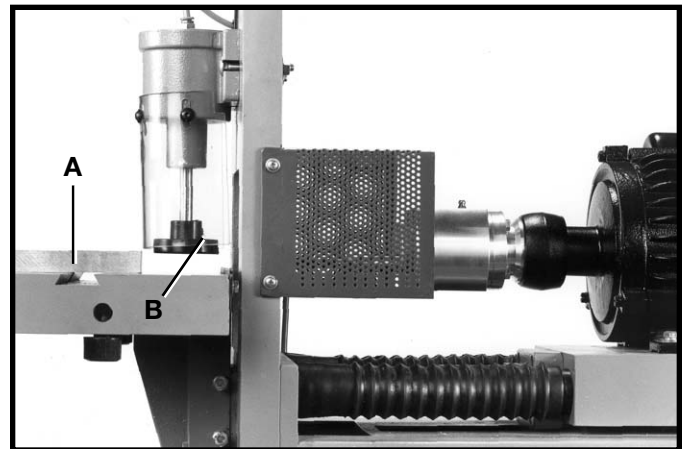

Fig. 27
2. Place workpiece (A) Fig. 27, on the table close to, but not under, the work holddown (B).
3. Depress foot pedal halfway until work holddown (A) Fig. 27, is lowered as far as it will go. **IMPORTANT:** When set correctly, the work holddown (B) Fig. 28, should rest slightly below the surface of the workpiece (A) but not contacting the drill bits (C).